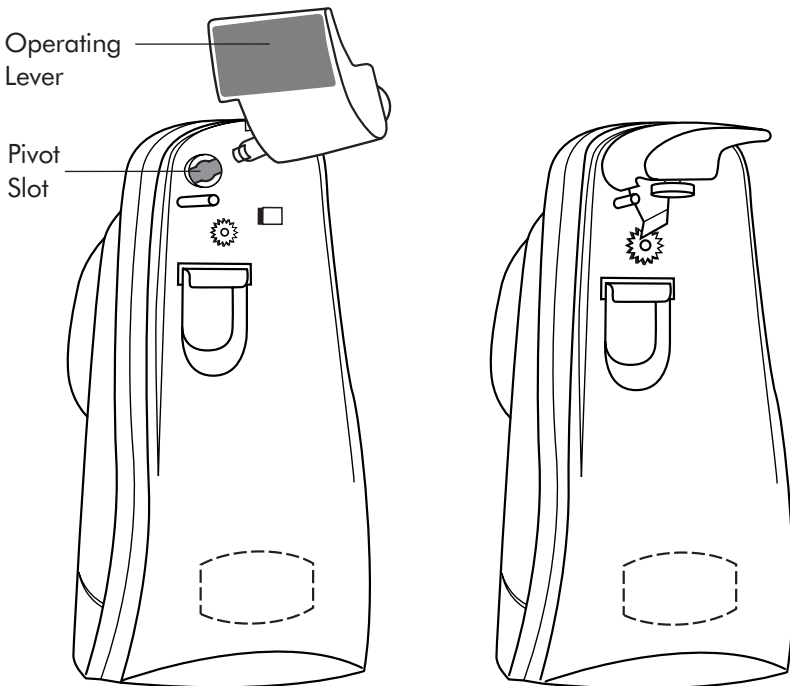

Figure 1
3. Attach the Operating Lever to the Can Opener. Carefully insert the Operating Lever in the lifted position into the pivot slot and lower the Operating Lever by rotating to the right. See Figure 1.